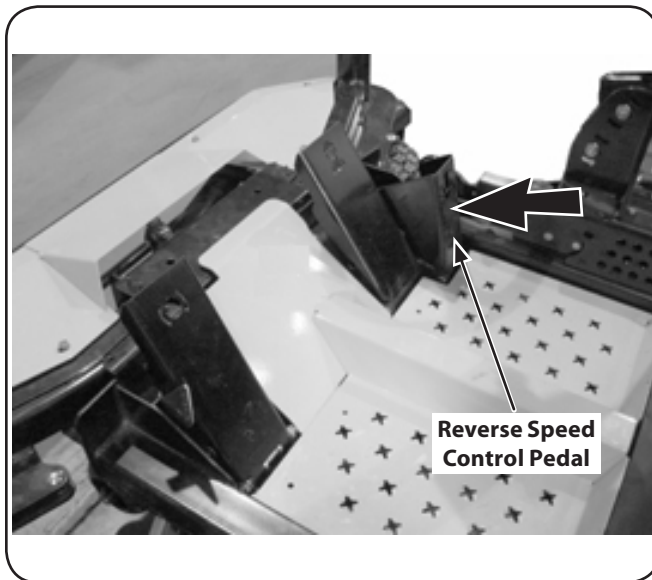

Figure 5-2
1. Slowly push the reverse speed control pedal forward. The tractor will start to move in the reverse direction. See Fig. 5-2.